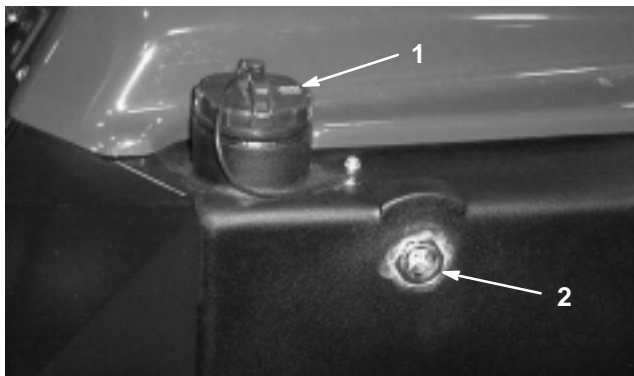

Figure 27
2. Check the fluid level by viewing it in the sight gauge (Fig. 27). If the fluid is cold, the level should be at the bottom of the gauge. If the fluid is hot, the level should be at the center of the gauge.
3. If the fluid level is not at least at the bottom of the gauge when it is cold, remove the cap from the hydraulic fluid reservoir (Fig. 27) and slowly fill the reservoir with high quality hydraulic fluid until the level in it reaches the bottom of the sight gauge. **Do not overfill.**